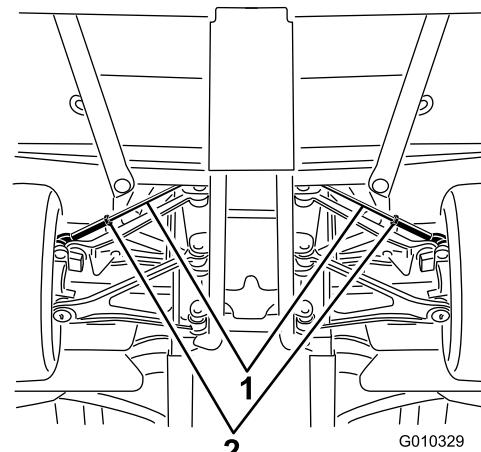

Figure 48
- Loosen the jam nut at the center of the tie rod (Figure 48).